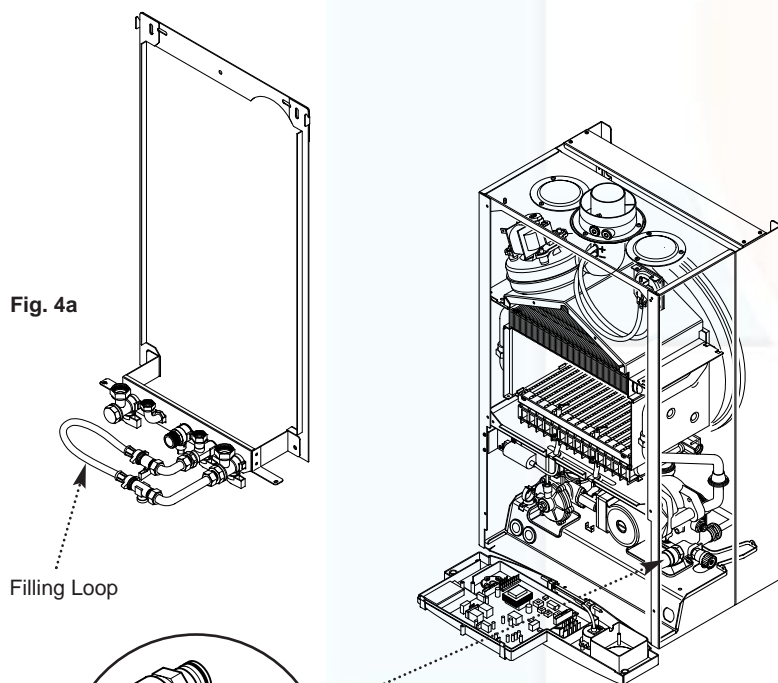

Fig. 4a
5. There are connection points on the mains cold water inlet and central heating return isolating taps (Fig. 4a) to which the optional filling loop kit (Part No. 248221) can be assembled.